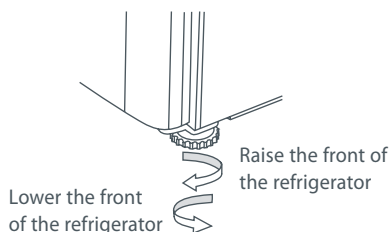

Fig.2 Refrigerator feet
- C** Adjust the front feet down until the refrigerator is leaning backward with the front approximately $\frac{3}{8}$ " (10 mm) higher than the back. This will ensure a good door closing action (refer to Fig.2).